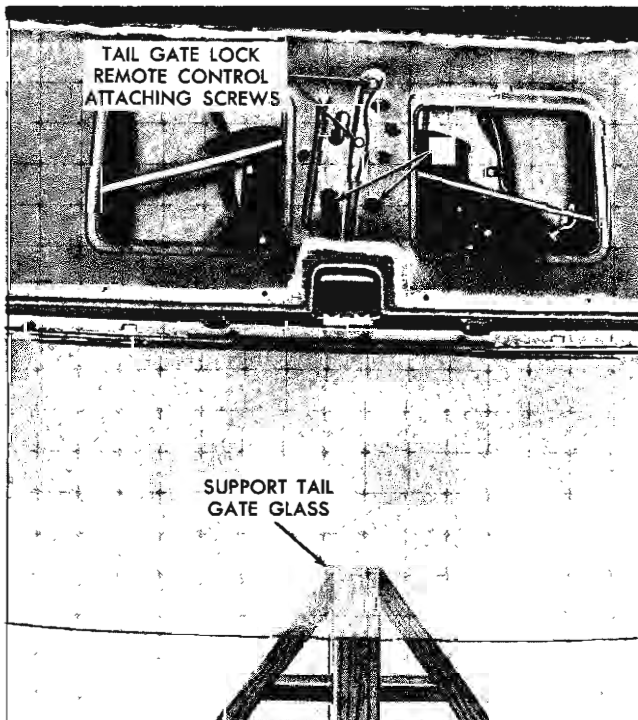

Fig. 5-13 Removing Outside Handle
2. Detach inner panel water deflector sufficiently to gain access to holes A for removal of handle attaching nuts (Fig. 5-13).
4. Support portion of glass extending out of tail gate (Fig. 5-13).
2. Detach tail gate inner panel water deflector sufficiently to gain access to holes A for removal of attaching nuts (Fig. 5-13).
CAUTION: Support portion of glass extending out of tail gate (Fig. 5-13).
2. Loosen tail gate lock remote control attaching screws (Fig. 5-13) and move remote control towards bottom of tail gate sufficiently to disengage end of handle push rod from hole in remote control lever.